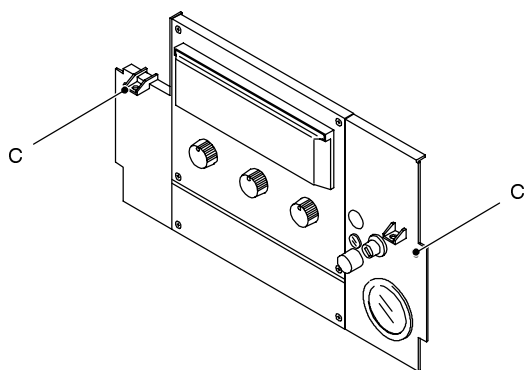

fig. 6
- 2 Remove the two screws *C* (fig. 6) and lower the instrument panel.